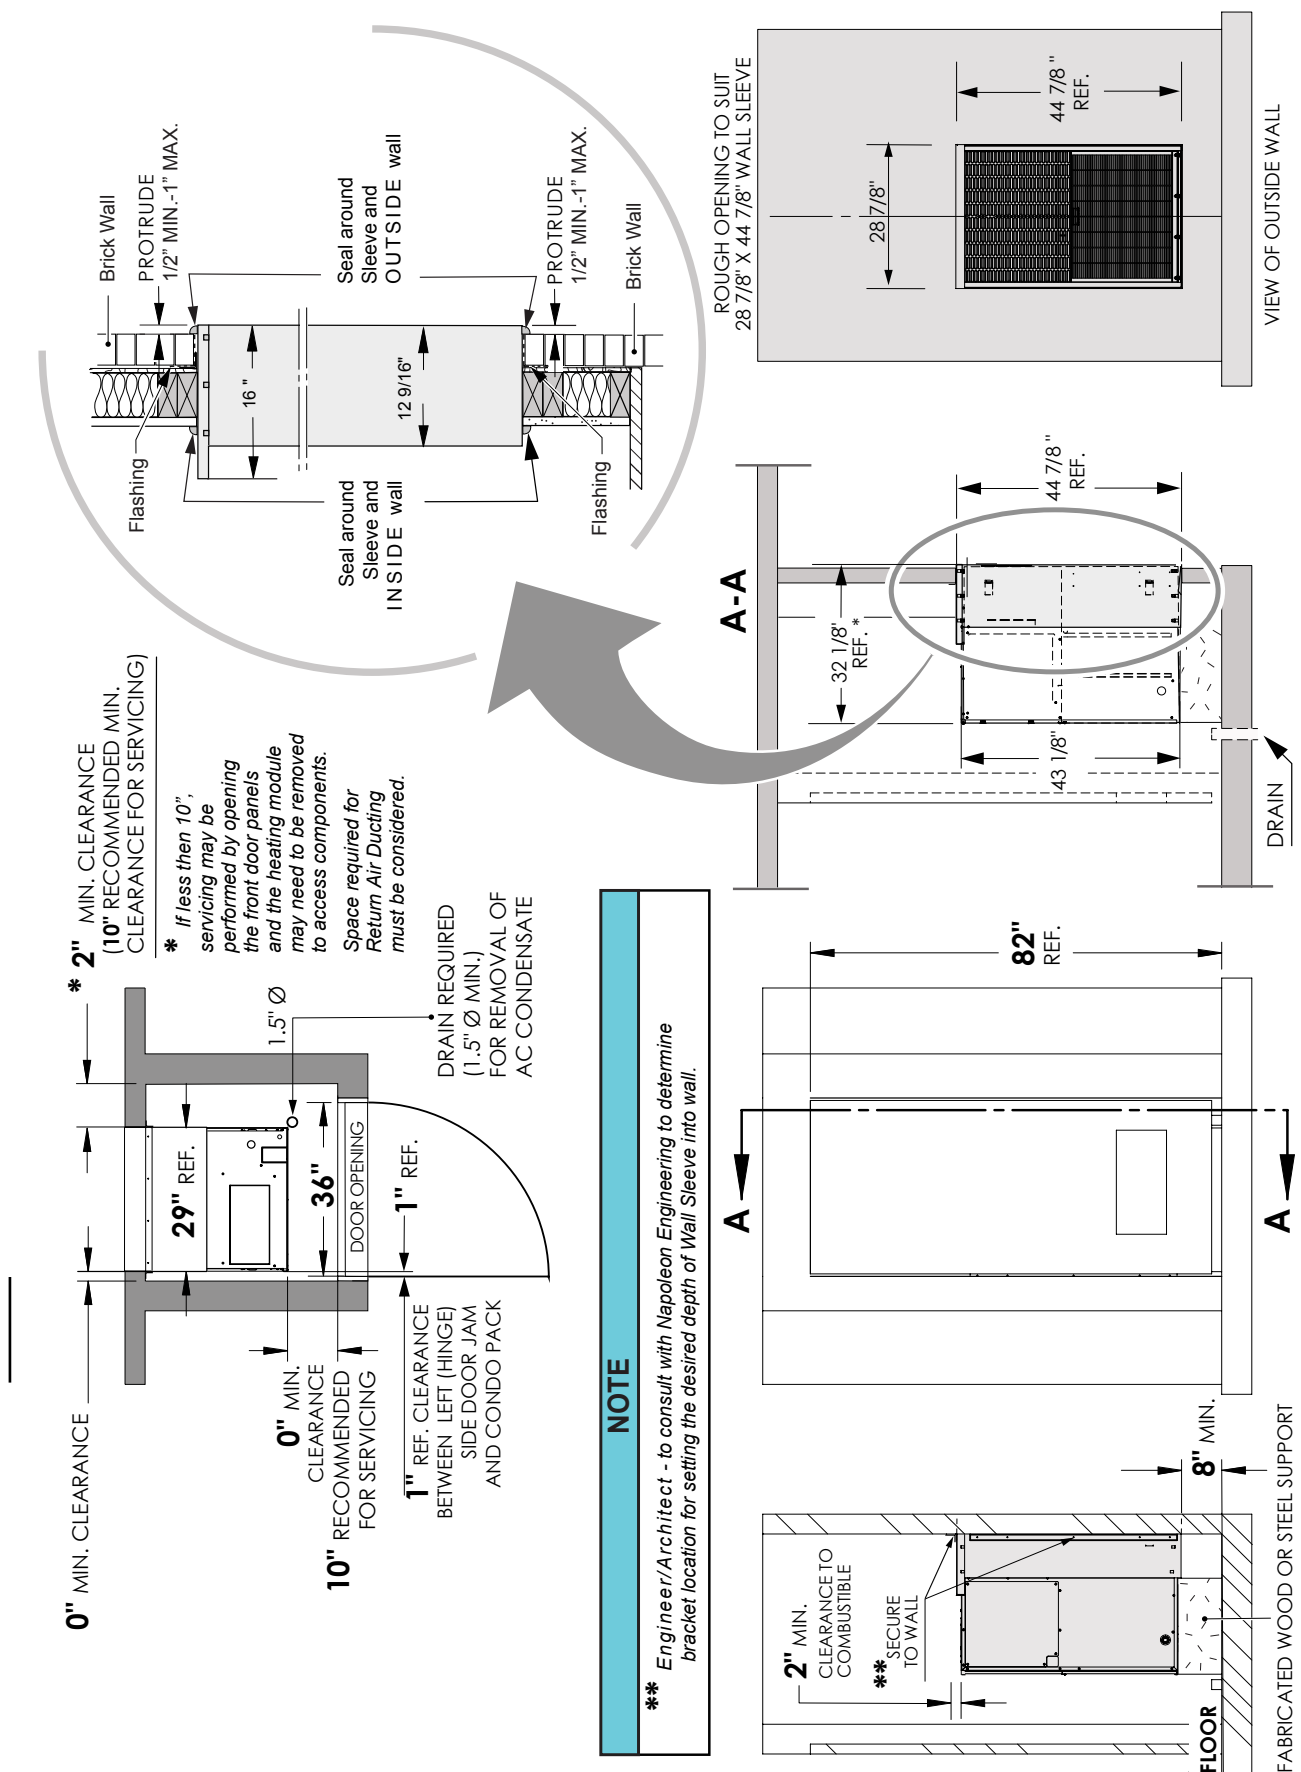

FIG. 4.2.2.
- Do not install directly on carpeting, tile, or other combustible material other than wood flooring. The grille side of the unit should protrude minimum 1/2" but no more than 1" (maximum) from the face of the building and should not be obstructed by foreign objects. Refer to FIG. 4.2.2.